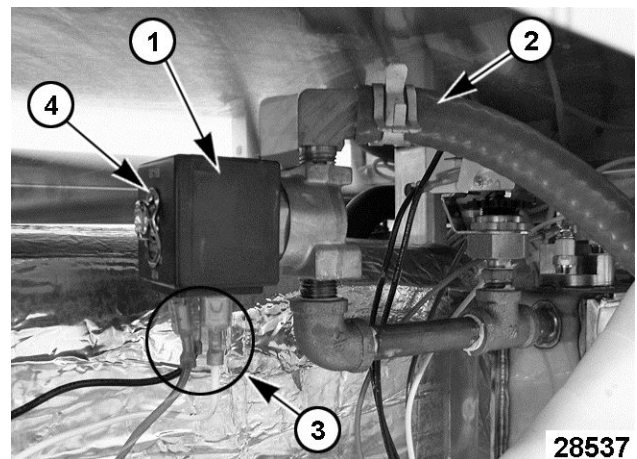

Fig. 82
- 3. Locate vacuum relief solenoid [1] Fig. 82 in the plumbing line that extends from water level probe housing.
- 4. Disconnect hose [2] Fig. 82 from solenoid valve.
- 5. Disconnect electrical wiring [3] Fig. 82 from solenoid coil.
- 6. Remove retaining clip [4] Fig. 82 securing coil to valve body then remove coil and spring washer.